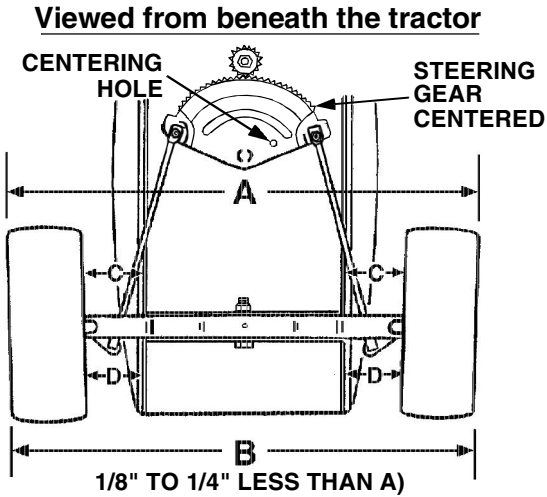

Figure 6-4
The front wheels should toe-in approximately 1/8 to 1/4 inch, as measured across dimensions A and B shown in Figure 6-4.
1. Check the steering gear to ensure it is in the centered position. The hole in the steering segment gear will align with the hole in the steering housing (See Figure 6-4). **NOTE:** A 5/16" pin can be used in the alignment holes to assure the steering segment is centered.
3. Measure the distance between the bottom edges of the tractor frame channels and the marks on the front of each wheel (See measurement D in Figure 6-4). These two measurements should be equal.
Measure the distance between the frame and the marks on the rear of each front wheel (See measurement C in Figure 6-4). Measurement D should be approximately 1/16 to 1/8 inch less than measurement C on each side of the tractor.